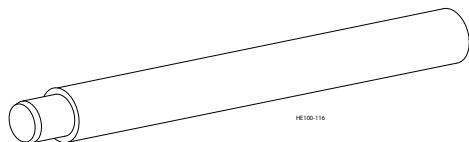

Figure 22 - Head Removal Tool
- Head Removal Tool (HRT), part number LL121191. (See Figure 22.)